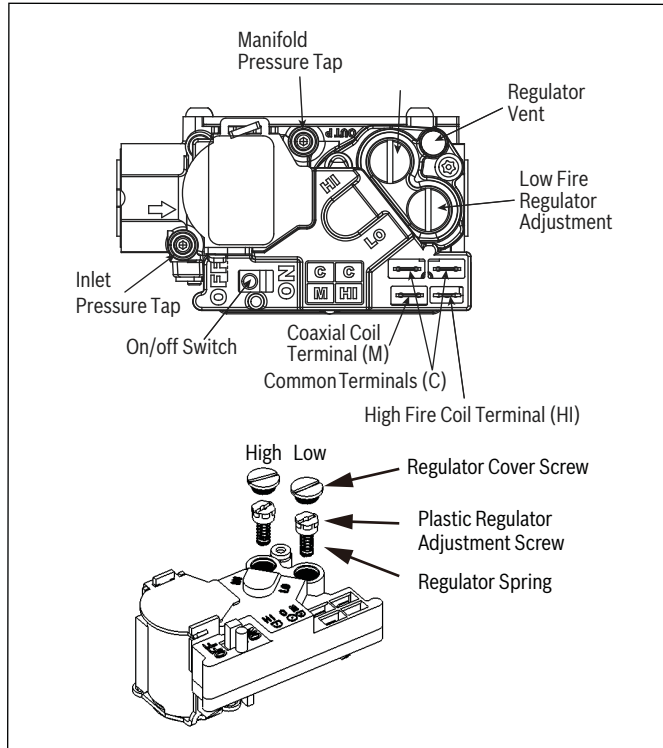

Figure 3 Gas Valve
5. Unscrew the Regulator Cover Screw and Plastic Regulator Adjustment Screw, and remove the natural gas springs. Refer to Figure 3.
2. Remove the manifold pressure tap plug located on the outlet side of the gas valve. Refer to Figure 3.
1. If the manifold pressure must be adjusted, then remove the 2 regulator cover screws from the top of the gas valve regulator, as shown in Figure 3.